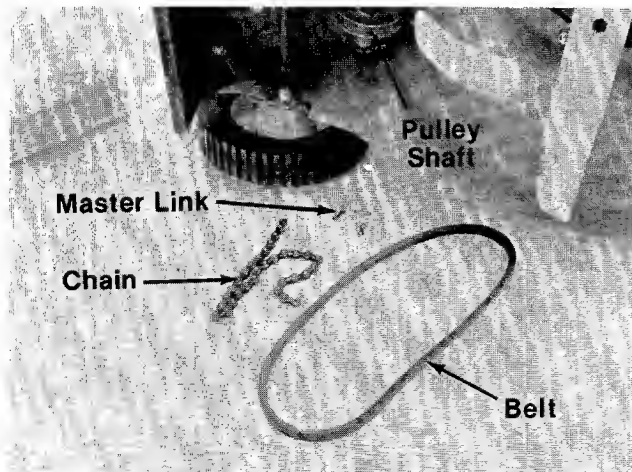

FIGURE 30.
10. Remove the chain, pulley shaft and belt. See figure 30.